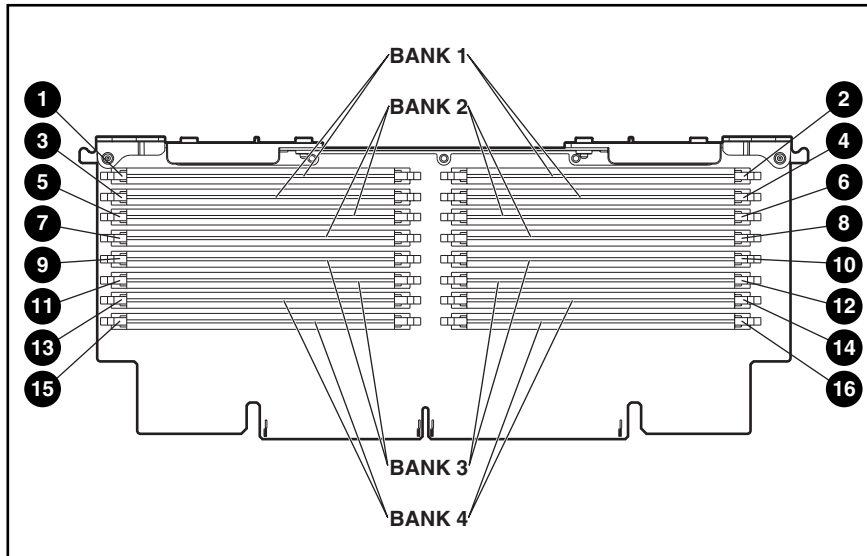

Figure 2-22. Memory banks and memory sockets on the memory board
- Install SDRAM DIMMs in the following socket sequence to ensure optimum performance. See Figure 2-22 for SDRAM DIMM socket locations. Table 2-5 identifies the proper DIMM sequence. Table 2-6 provides various combinations of DIMMs on the memory board.